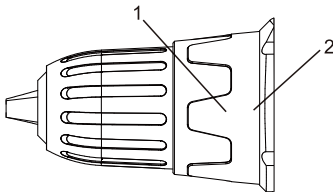
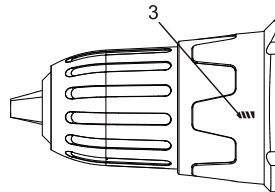

Fig. 4
Fig. 5
1. Identify the torque settings located on the torque adjustment ring (1) (Fig. 4).
2. Rotate adjustment ring to align the correct torque setting number with the torque indicator arrow (2). See below for the correct torque settings:
- **For drilling. This position is marked with a drill bit icon (3) on the torque adjustment ring (Fig. 5).**